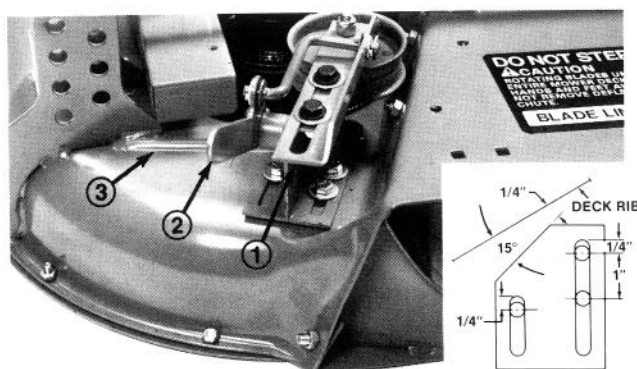

Figure 9
1. Position idler assembly on deck (Fig. 9).
2. Engage idler lever (toward belt) and slide idler pulley firmly into blower belt. To provide for future adjustment, there should be at least 1/4" clearance between front of idler mounting bracket and raised rib in deck (Fig. 9, inset). Mounting bracket should be positioned on flat part of deck. Make sure idler pulley clears spindle pulley and blower and idler lever clears carrier frame when in the engaged position. Mounting bracket should be at approximately 15° to deck rib (Fig. 9, inset).
3. Using dimensions shown in (Fig. 9, Inset), locate and drill (3) 3/8" dia. holes in deck.